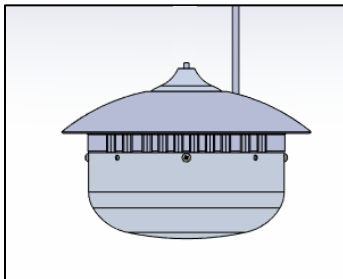

FIG.5 - REFLECTOR
1. REFLECTOR ASSEMBLY with CORD attached. (shown in FIG. 5)